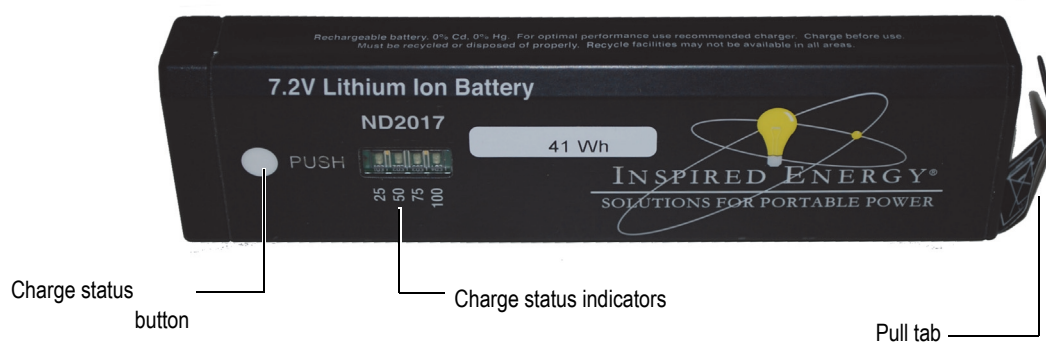
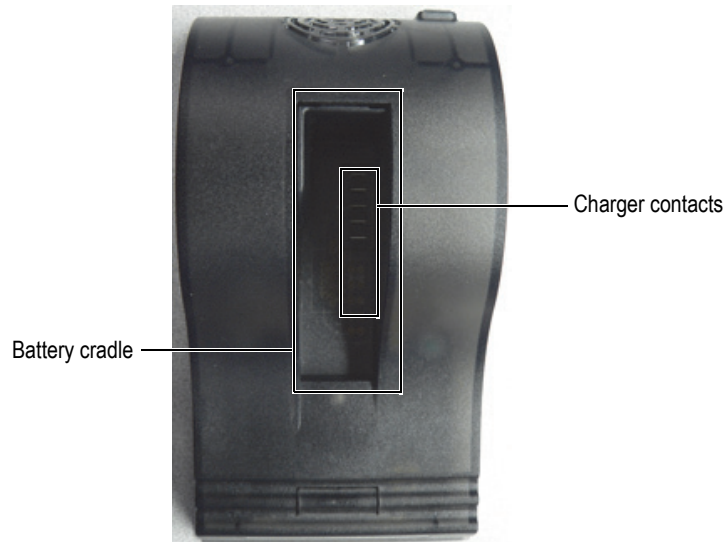

Figure 3-10 Li-ion battery (front view)
Figure 3-11 Battery charger cradle
To test the charge status of the Li-ion battery, press the white button on the battery pack (see Figure 3-10 on page 60). The green lights indicate the percent of remaining charge, with a range of less than 25 % to 100 %. If the battery's charge is less than 25 %, use the docking station to charge it to full capacity.
4. Align the contacts on battery with the contacts on charger, and then insert the battery into the charger (see Figure 3-10 on page 60 and Figure 3-11 on page 61).